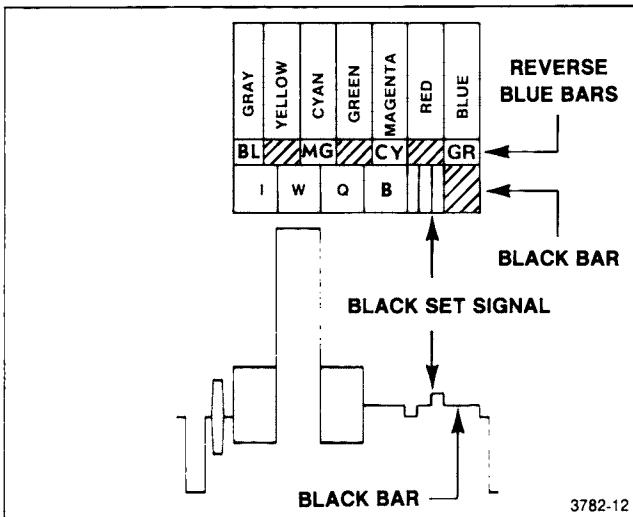

Fig. 2-3. The SMPTE $-I,W,Q,B$ signal with Black Set.
- t. CHECK—luminance levels of the SMPTE, -I,W,Q,B EIA white and Black Set signals as indicated in Table 2-8 (see Fig. 2-3).